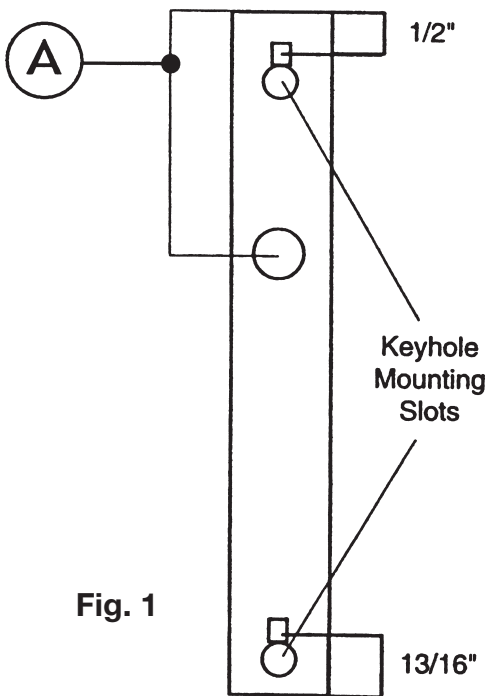

Fig. 1
- **Mount fixtures only to surfaces that are mechanically sound. Use only the keyhole slots provided on the back of the fixture (Fig. 1). Do not use adhesives of any kind.**
1. Mark location of screws for keyhole slots (Fig. 1). Minimum screw size for mounting – #8 x 1-1/4".